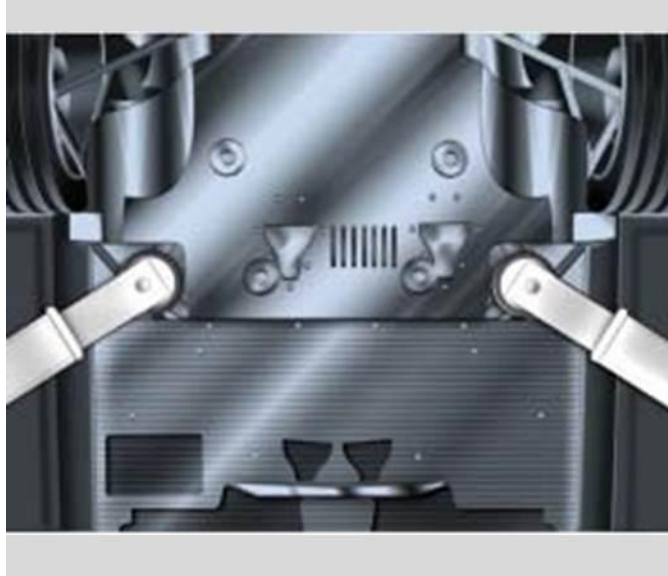

Fig. 4 Rear Lifting Points
6. The support points for lifting the rear part of the vehicle are shown in (Fig. 4).